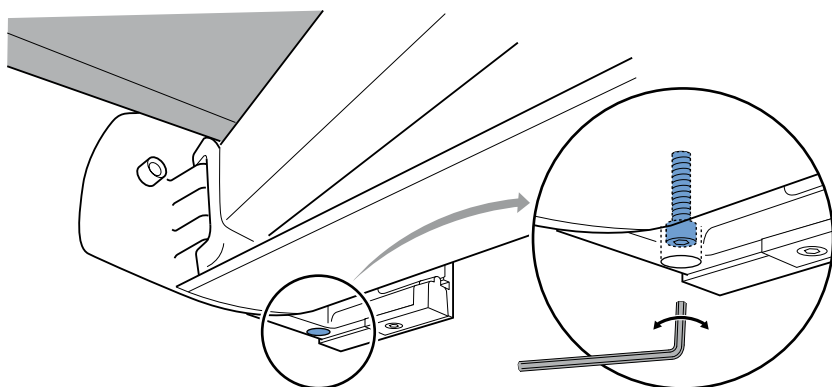

fig. 5.1 Location allen bolt left
2. The slope of the awning can be determined with the help of an allen bolt which can be found on the left and right beneath the mounting bracket. View figure 5.1.